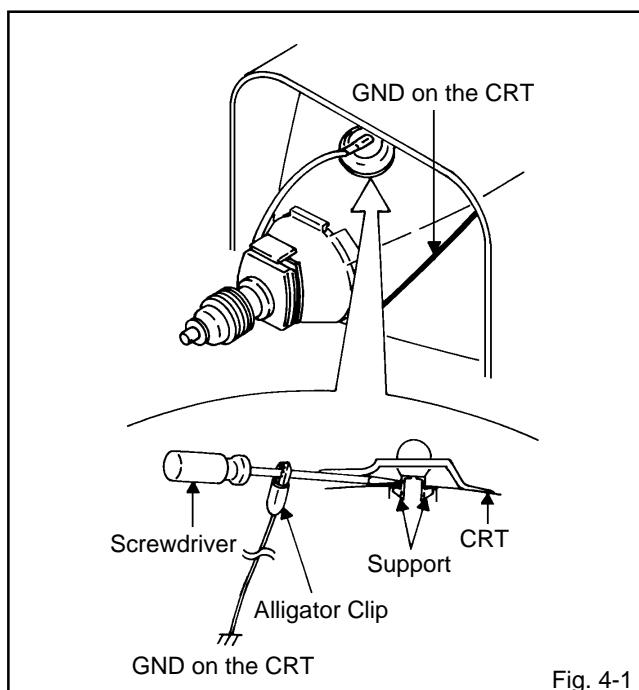

Fig. 4-1
1. Follow the steps as follows to discharge the Anode Cap. (**Refer to Fig. 4-1.**)